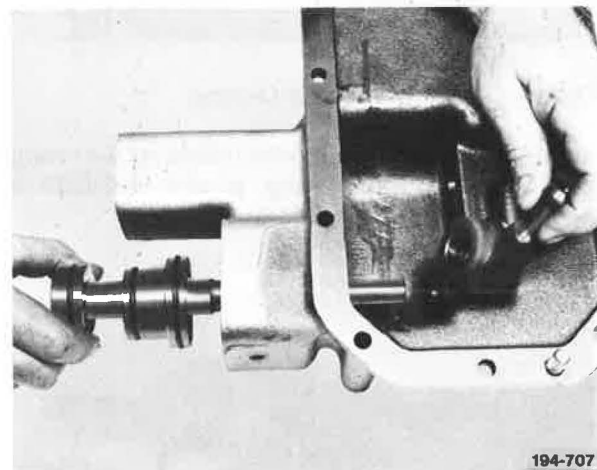

Figure 5-430. Installing Shift Rail and Shifter
5. Insert Lo/Direct shift rail into shift cover, and at the same time, install Lo/Direct shifter onto shift rail. See Figure 5-430.